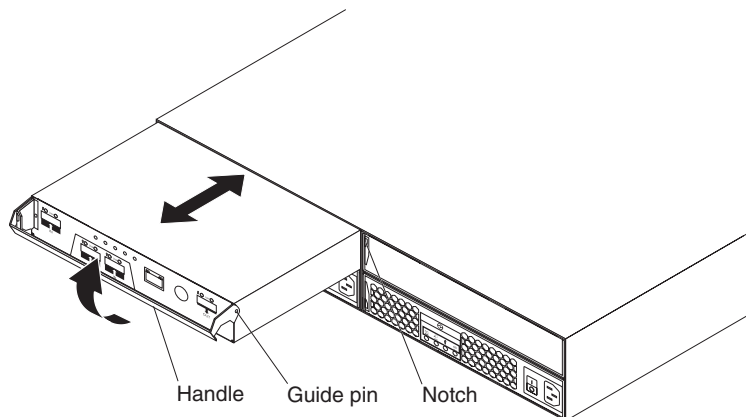

Figure 42. Removing and replacing controller A
- b. Slowly pull the handle away from the chassis to remove the controller from the bay, as shown in Figure 42.
- b. Make sure that the guide pins on the side of the controller fit into the notches on the DS3200 chassis. See Figure 42 on page 70.